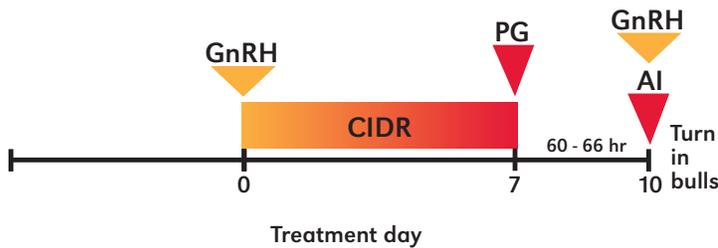

Figure 16. Seven-day CO-Synch + CIDR® TAI.
**Seven-day CO-Synch + CIDR TAI** (Figure 16). With this protocol, three separate injections are given in addition to a CIDR. Each cow is given a CIDR and a GnRH injection on day 0. On day 7, the CIDR is removed and each cow receives an injection of prostaglandin. Between 60 and 66 hours (about 2.5 days) following the prostaglandin injection, all females are given an injection of GnRH and the whole group is mass inseminated (day 10 of the protocol).